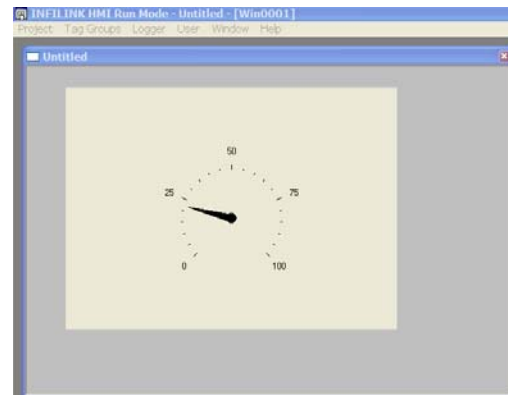

Figure 3
6. Save and run the project to see your gauge as shown in Figure 3.